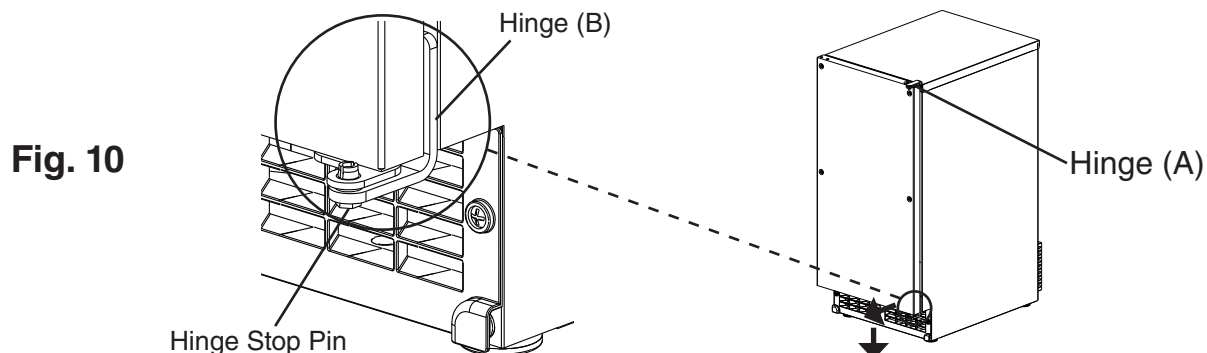

Fig. 10
- 5) While maintaining a hold on the door, remove the hinge stop pin from hinge (B). Pull out the bottom of the door slightly and gently remove the door from hinge (A). See Fig. 10. If you are leaving the door right-hinged, skip to step 7. If you would like to reverse the door swing, proceed to step 6.